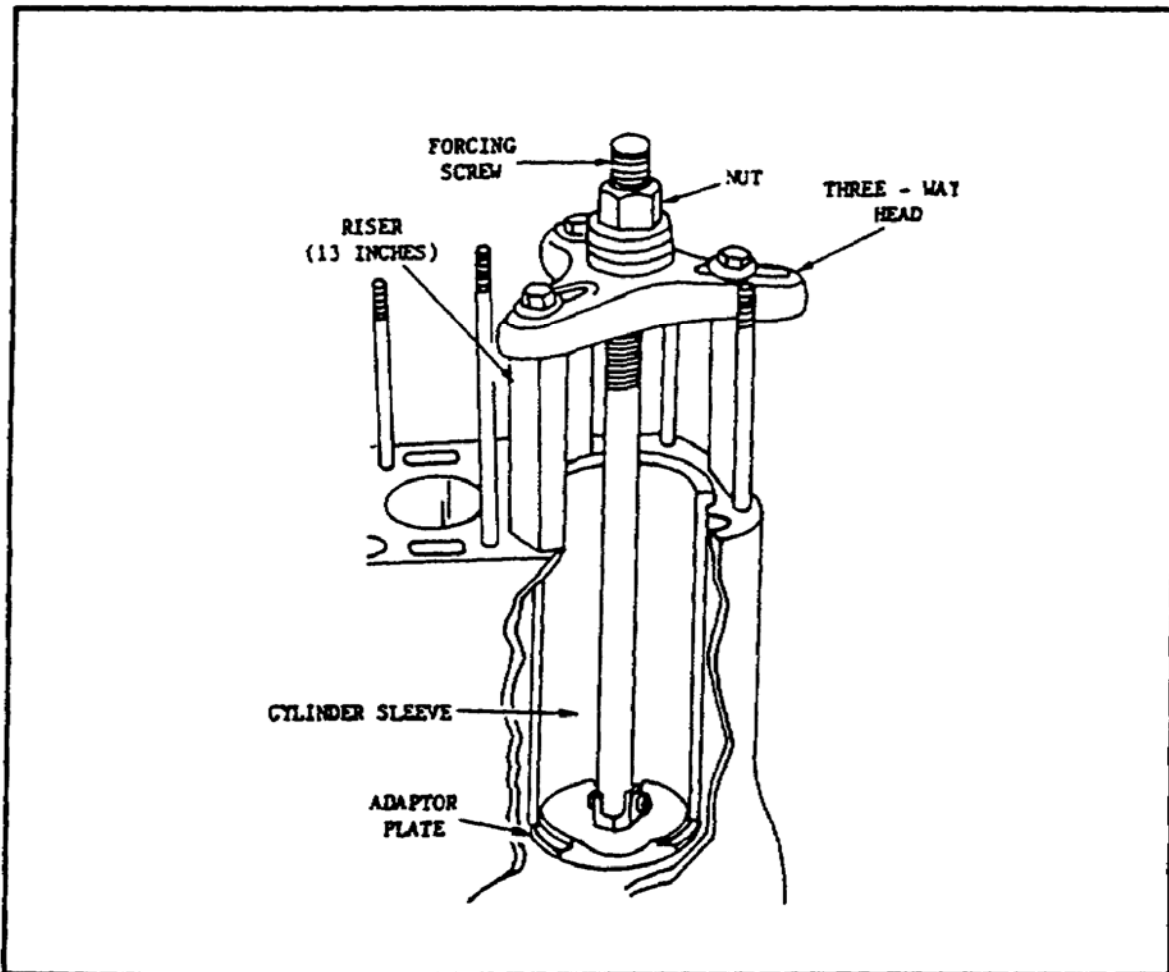

FIGURE 79. USING CYLINDER SLEEVE PULLER.
(6) *Cylinder Sleeve Puller*. The cylinder sleeve puller is adjustable to provide clearance regardless of the number or position of the cylinder head studs, and to accurately center the tool over the bore (figure 79). Four adapter plates are supplied with the puller which cover sleeves from 4 1/4 to 5 3/4 inches in diameter. The adapter is positioned so that the cylinder sleeve rests on the edges of the adapter. The puller swivel assembly is inserted from the top and screwed into the adapter. When tightening the forcing screw, a steady force is applied which will pull the sleeve out of the cylinder.